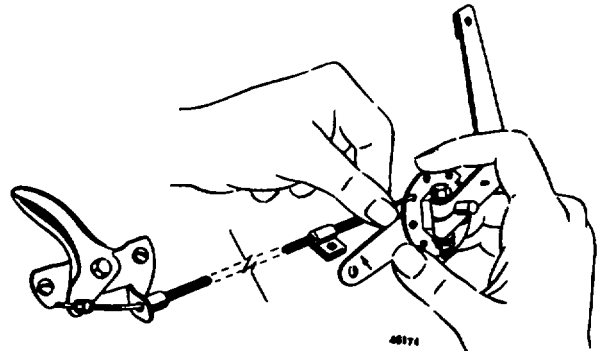

Figure 7
- With control handle in an open position, insert throttle wire into speed control disc hole nearest throttle bracket. (Fig. 7).